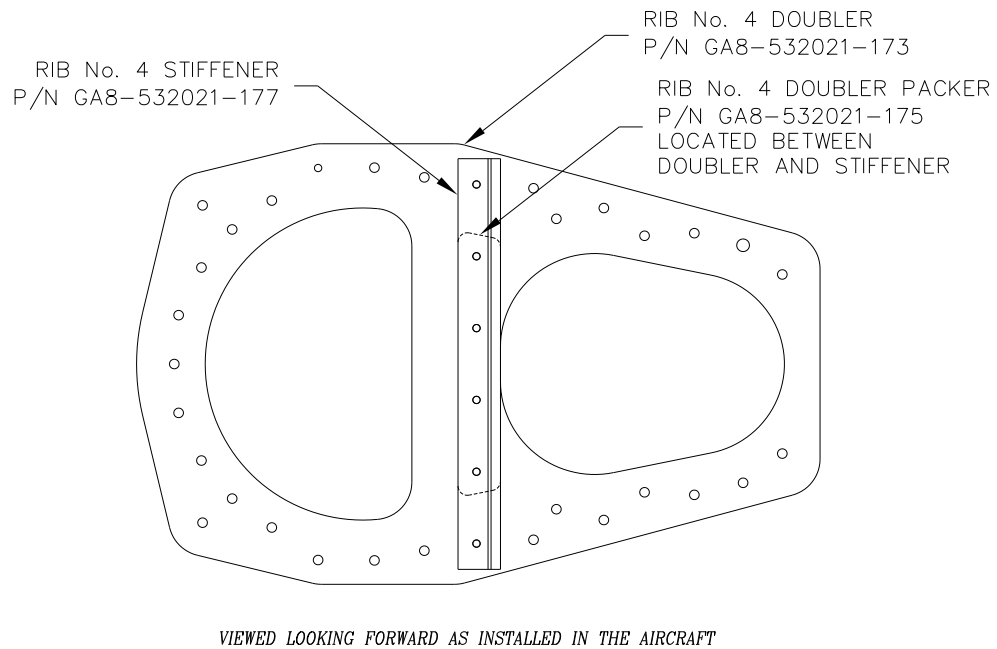

Figure 4: Location of the packer and stiffener over the doubler.
20. Locate the doubler packer (P/N GA8-532021-175) and the doubler stiffener (P/N GA8-532021-177) in accordance with figure 4. Back drill the 3/32" holes shown in figure 4 at each end of the stiffener from the doubler through the rib and stiffener.